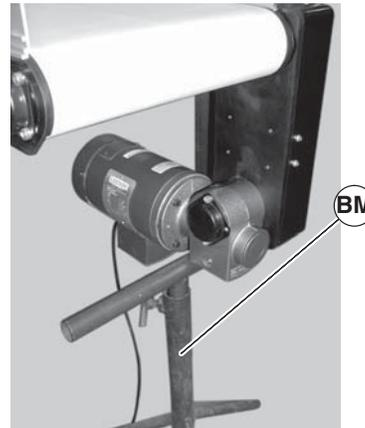

Figure 50
- Use a temporary support (Figure 50, item BM) to support Gearmotor.